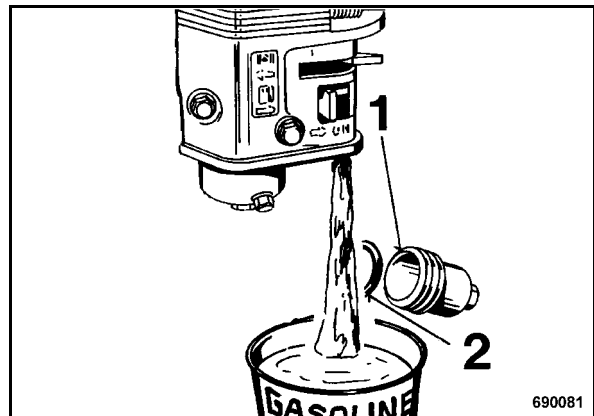

Fig. 54
- Unscrew the fuel sludge filter 1 (Fig. 54) and drain off all gasoline.
- Check seal ring (2) for cracks, replace the seal if damaged.
- Screw the fuel sludge filter with sealing ring (2) in tightly.